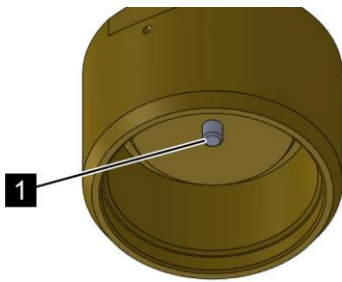

Fig. 166: Release pin
4. ➤ Check whether the release pin (Fig. 166/1) protrudes on the release device. Target dimensions: $8.1 +0.65/-0.55$ mm ($0.319 +0.026/-0.022$ inches).